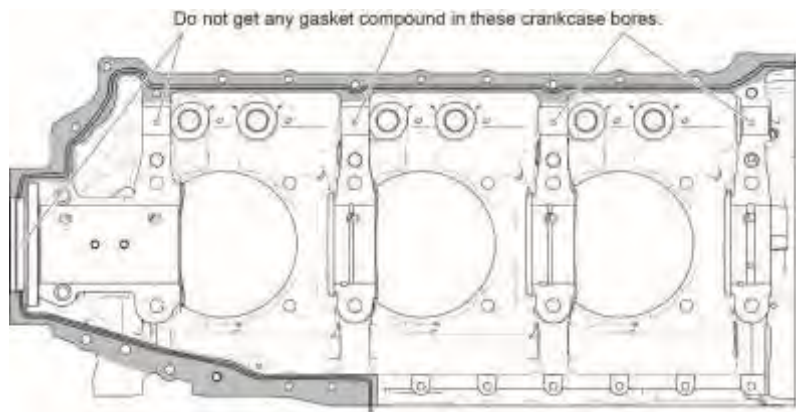

Figure 91
- (1) Apply a thin layer of non-hardening gasket material such as POB #4 Perfect Seal gasket compound or equivalent to the outside mating surface of only one crankcase half (darker area shown in Figure 91.)
- (2) Measure and cut a total of four continuous lengths of "00" silk threads (four for only one crankcase half). Two of the lengths will extend along the entire length of the top of the crankcase flange as shown in Figure 91, and two silk thread lengths will be shorter to cover the distance shown on the bottom flange of the same crankcase half. Do not apply silk thread pairs to both crankcase halves.
TO ENSURE CORRECT SEALING, MAKE SURE THE SILK THREADS RUN THE LENGTH, EACH THREAD AS A CONTINUOUS PIECE, OF THE INSIDE OF THE CRANKCASE FLANGE (FIGURE 91) AND THERE ARE NO BREAKS IN ANY OF THE THREADS. BREAKS IN THE SILK THREAD CAN CAUSE THE CRANKCASE TO LEAK.
- (3) Press two lengths of "00" silk threads in the gasket compound on the top and bottom flange sides (of the crankcase half) (Figure 91) firmly in the gasket compound where both silk threads are oriented in the area between the bolt holes and the inside flange edge of the crankcase half (approximately between 0.020 to 0.040 in. (0.508 to 1.106 mm)) apart as shown in Figure 92. Make sure that the silk thread lengths do not touch or cross over one another or cover a bolt hole.